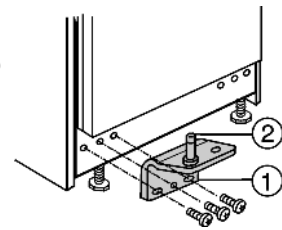

Fig. 9
- ▶ Place the hinge pin Fig. 9 (2), which is in the bearing bracket Fig. 9 (1) with the washer, inside the lower door bearing.
- ▶ Screw the turn hinge Fig. 9 (1) firmly into place (with 4 Nm).